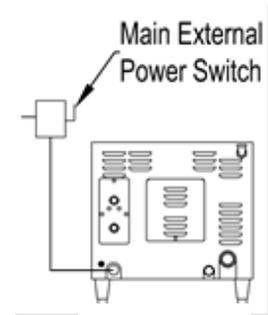

Figure 3-3
2. Turn ON the Main External Power Switch. See Figure 3-3.